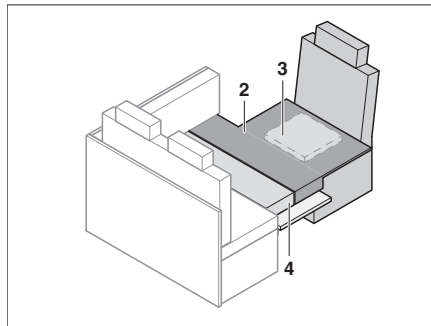

Fig. 167 After conversion
- Lay on the additional cushion as shown in Fig. 167.